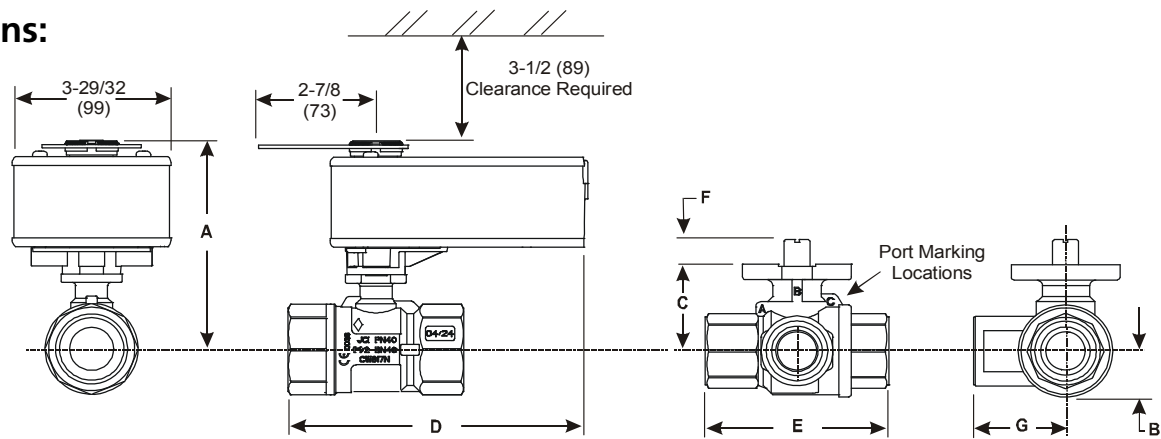

Figure 2: Spring Return VA(M)S-70-(T)-T Series Ball Valves - Dimensions, in. (mm)
1. Port A must always be connected the coil (Figure 2).